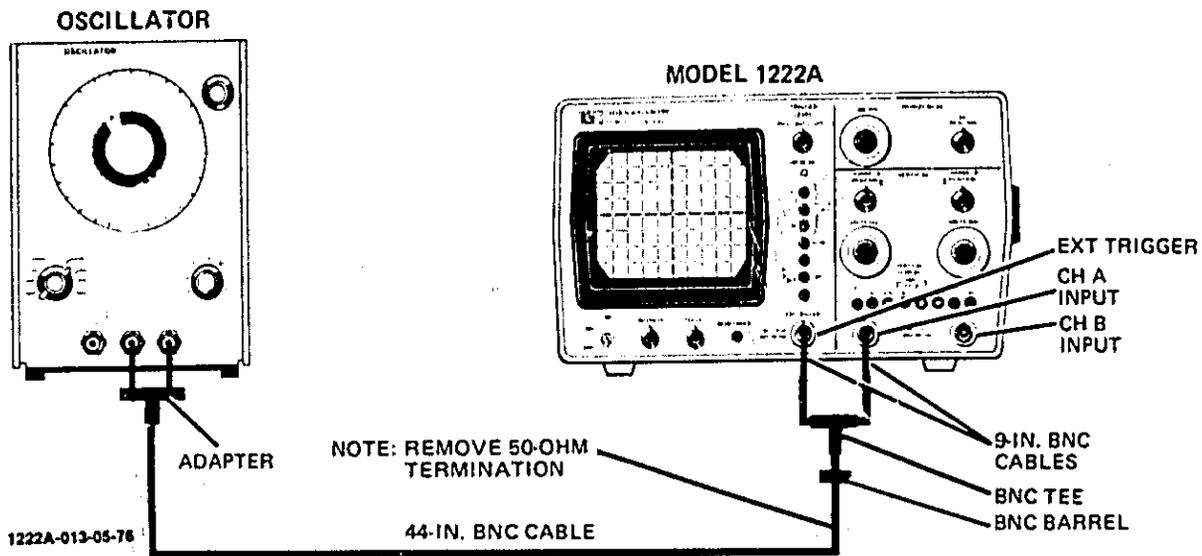

Figure 5-5. LF Triggering Test Setup
j. Connect HP Model 204C Oscillator to Model 1222A as shown in figure 5-5.